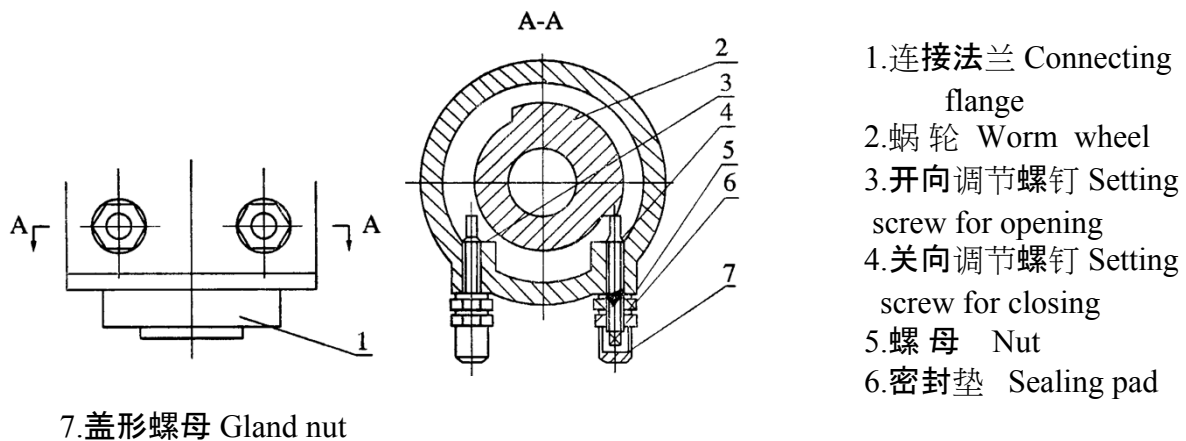
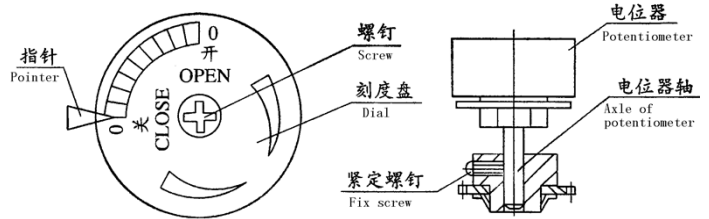

图6 机械限位机构 Fig.6 mechanical
图7 开度机构 Fig. 7 position
2. 关闭位置采用机械限位时, 转矩机构的调整, 见图6
2. Adjustment for closing by mechanical stopping (Fig. 6)
1. 开度刻度盘调整, 见图7。当行程控制机构调整完成后, 把阀门关闭到“全关”位目视检查刻度盘上的“0关”刻度是否与指针
Adjustment of dial, see Fig.7
通常输出轴顺时针转动为关阀, 逆时针为开阀(从上朝下看), 若要求相反的话, 图5中扇形板的“开”、“关”位置;图6中“开”、“关”调节螺钉;图7中刻度盘的“开”、“关”位置这些地方与本说明书不同, 以实物为准, 说明书不再更改。
In general, clockwise rotation of output shaft of actuator makes valve close, and counter-clockwise rotation of the shaft makes valve open(with view downward). If reverse rotation is needed, “open” and “close” positions of sector plate in Fig.5; adjust screws for “open” and “close” in Fig.6; “open” and “close” positions of dial in Fig.7 will not be consistent with this manual. The indicating marks are shown on the specific product and this manual will not be modified further.